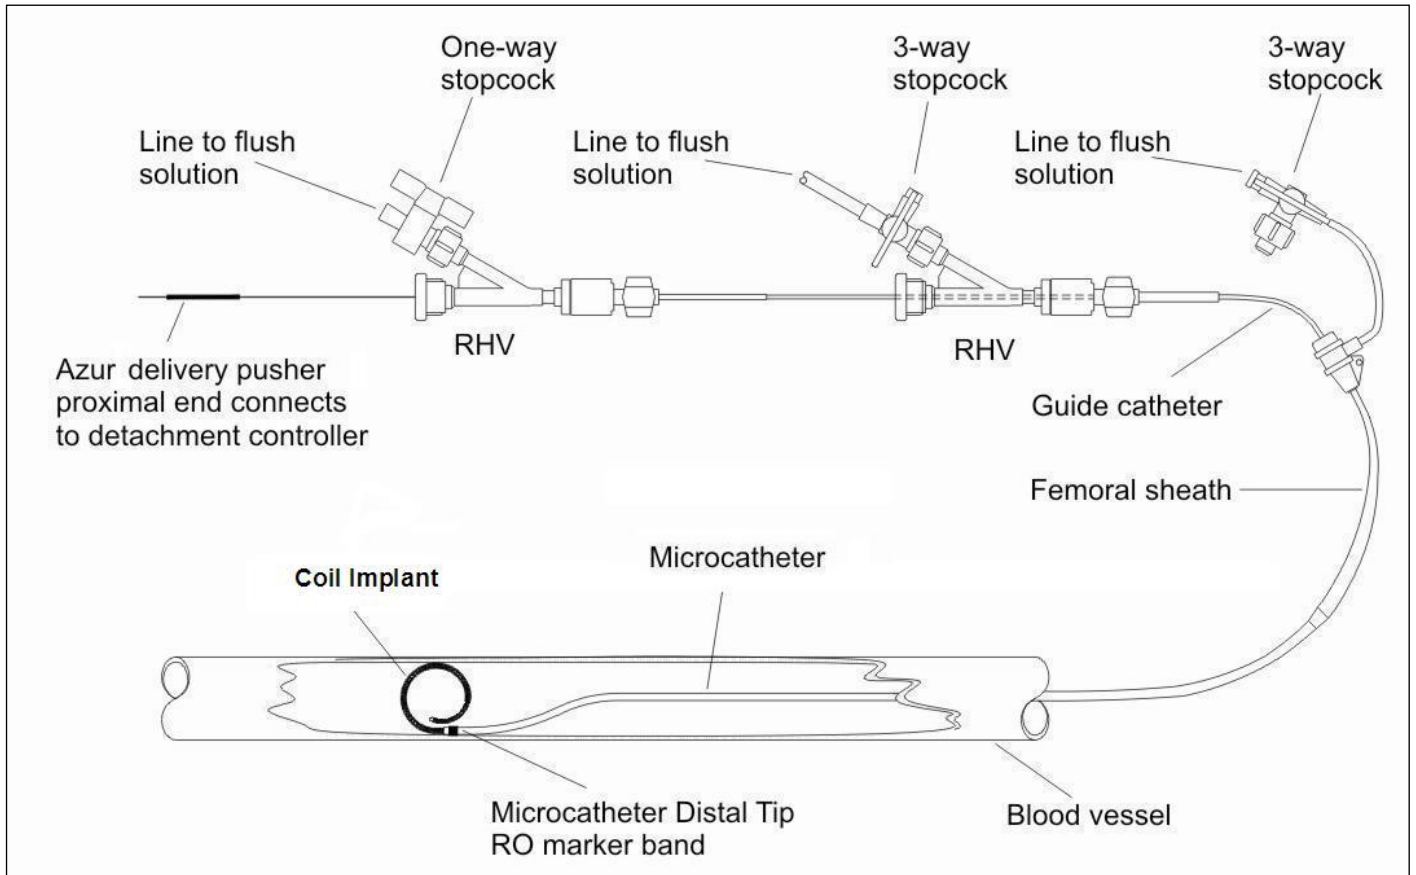

Figure 1 – Diagram of AZUR System Setup
1. Refer to Figure 1 for the set-up diagram.